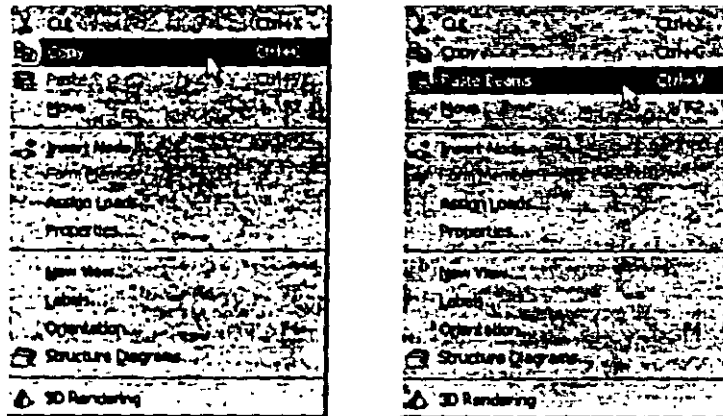

Figure 3.20
- To create member 6, we shall utilize the *Copy-Paste* facility available either under the *Edit* menu, right-clicking your mouse button (Figure 3.20) or using the shortcut keys "Ctrl + C" and "Ctrl + V". To apply this method, first select member 5. (Please refer to the 'Task Reference' section at the end of this chapter to learn about selecting members.) Click the right mouse button and choose *Copy* from the pop-up menu (or press "Ctrl + C"). Once again, click the right mouse button and select *Paste Beams* (or press "Ctrl + V") as shown below. It is important to note that STAAD.Pro follows the Microsoft convention for all of its standard shortcuts (CTRL+C, +V, +X, +Z, +Y and +A)